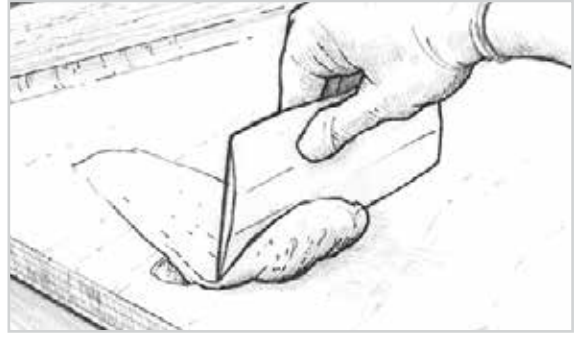

Figure 8-15 Trowel the thickened epoxy fairing compound into the voids and depressions with a plastic spreader.
4. Trowel on the thickened epoxy mixture with a plastic spreader, working it into all voids and depressions. Smooth the mixture to the desired shape, leaving the mixture slightly higher than the surrounding area (Figure 8-15). Remove any excess thickened epoxy before it cures. If the voids you are filling are over ½" deep, apply the mixture in several applications or use 206 Slow Hardener or 209 Extra Slow Hardener, depending on ambient temperature.